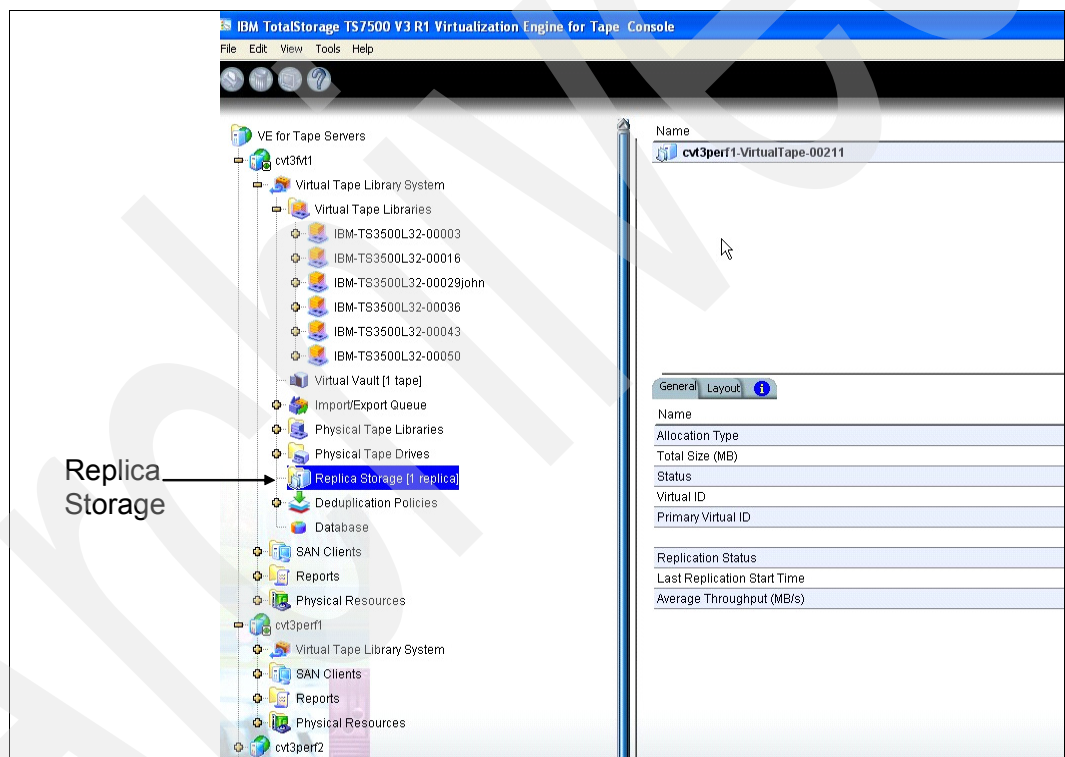

Figure 7-18 Replication Status on source server
10. You can check the status of the replication, as shown in Figure 7-18.